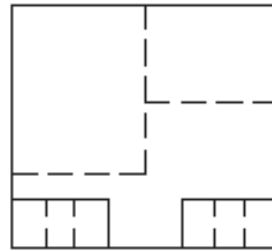

Figure 11–11
- Change the linetype for the -HID layers so that they display with hidden lines, as shown in Figure 11–11.